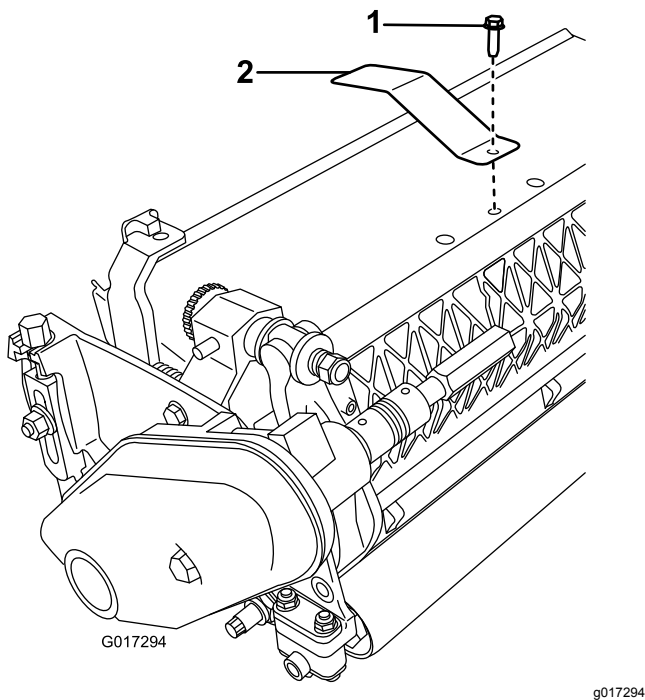

Figure 3
2. Remove the center, grass-shield bolt (Figure 3).
3. Install the target plate to the top of the cutting unit using the bolt that you removed previously (Figure 3).